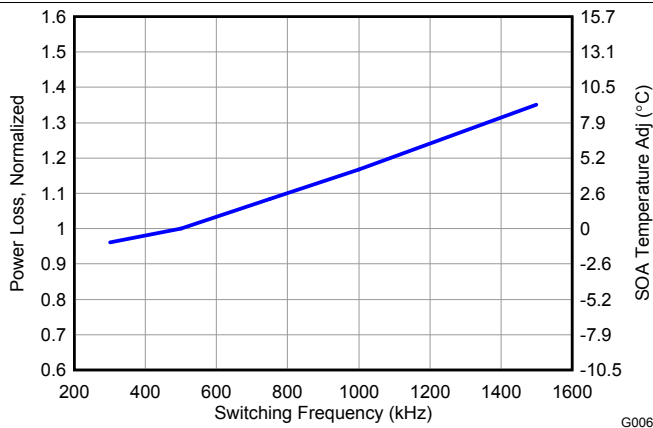

Figure 6. Normalized Power Loss vs Switching Frequency
- Normalized Power Loss for switching frequency  $\approx 1.17$  (Figure 6)